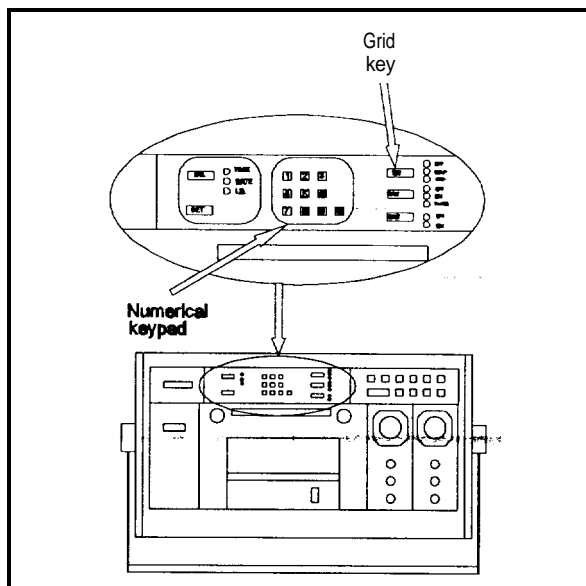

Figure 5
2.2.5 Grid Selection - The recorder will print four grid types. Figure 5 shows the GRID Panel key which is located behind the upper panel door. These GRID panel keys control grid type selection. Three indicators labeled OFF, OVLP, and SEP display the active grid type. Press the GRID panel key until the desired grid type indicator(s) light(s) to select a grid type. Grid type changes can be made on the fly without pressing the STOP key. The chart will hesitate momentarily while changing to the new grid type, then resume speed.